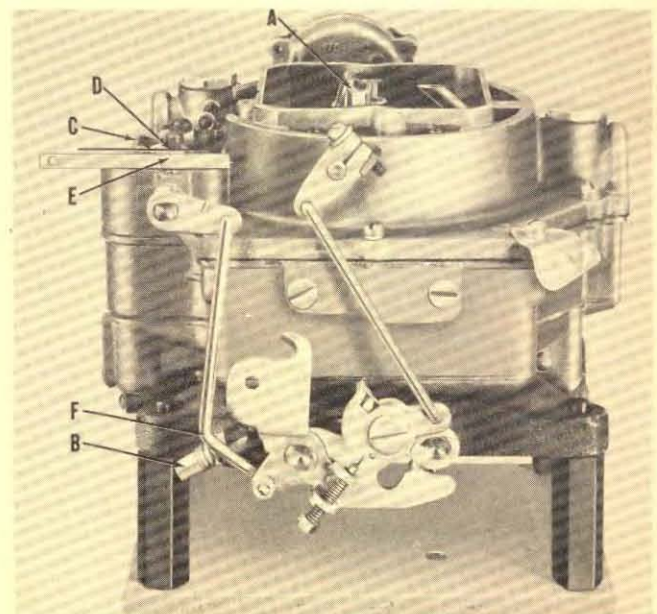

Fig. 9
A. Block choke valve open with cardboard, "A" Fig. 9.
C. Hold straight edge across top of dust cover boss at pump arm. The flat on top of the pump arm "D" should be parallel to straight edge, "E" Fig. 9. Adjust by bending pump rod at lower angle "F," using bending tool T109-213.
NOTE: The Atmospheric Idle Vent has been eliminated, "Shown in Fig. 9 in the Service Counselor and Fig. 29 in the Service Manual." Therefore, no adjustment is required. The vent contact arm has been bent away so it will not contact and open the valve.